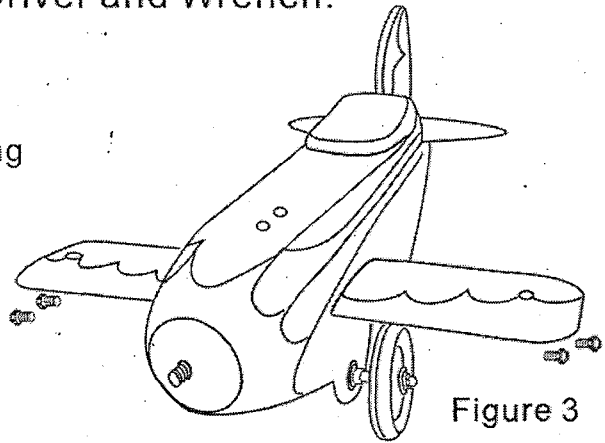

Figure 3
Step 1 Locate the lower wings, use the bolts and screw driver to secure the lower wing to the airplane body. Shown as the Figure 3.